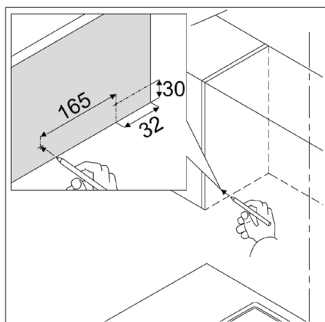

Fig. 4
3. Drill holes and attach the hood according to Fig. 4, 5, 6.